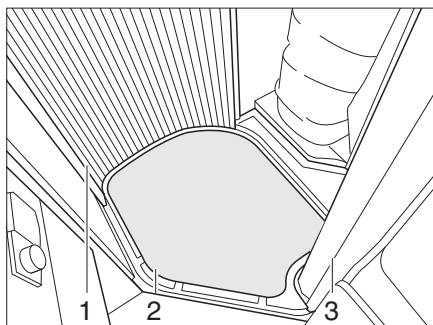

Fig. 98 Cover of the shower tray
- Remove the cover of the shower tray (Fig. 98,2).
- Completely pull closed the shower curtain (Fig. 98,1 and 3).